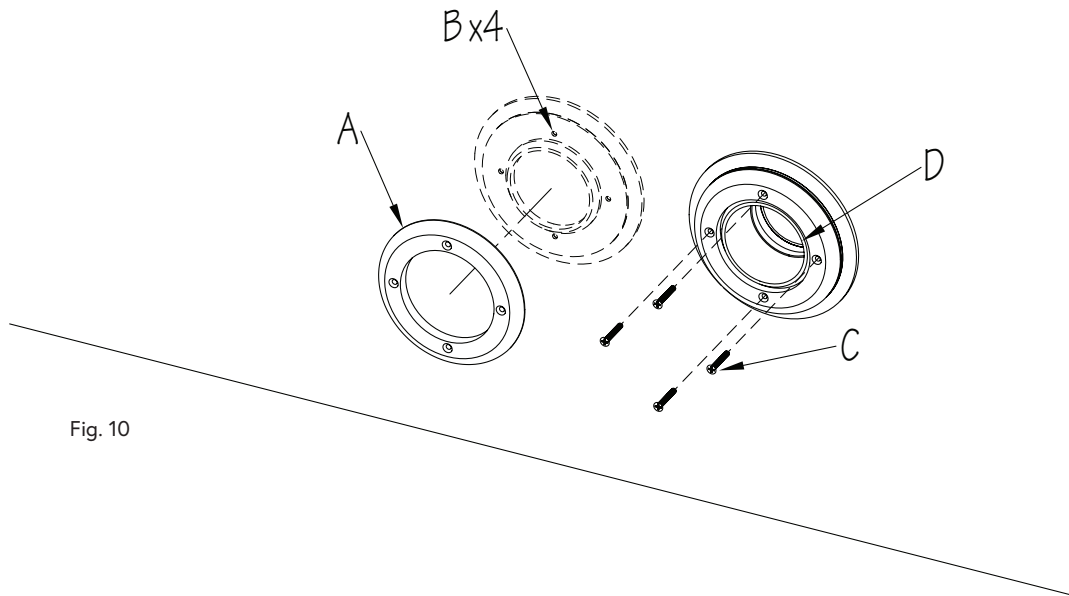

Fig. 10
Once the Faceplates are installed, use a sharp utility knife to cut out the round holes in the liner (D) using the inside of the Faceplate as a template (Fig. 10).